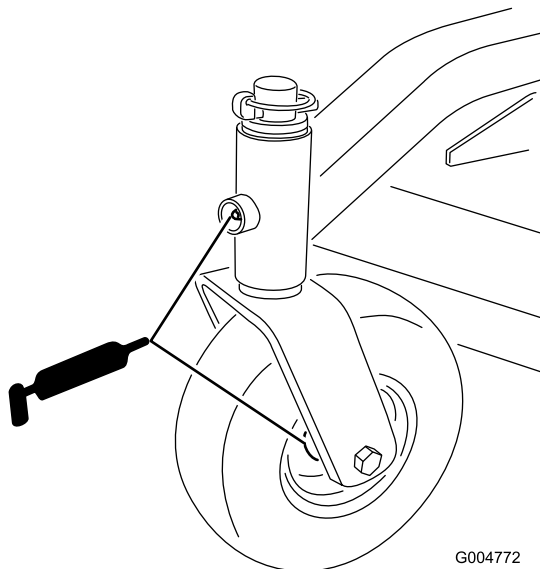

Figure 23
1. Lubricate the front caster wheel bearings and front pivots (Figure 23).
4. Remove the rear wheel grease cap. Lubricate the rear wheel bearing (Figure 23).